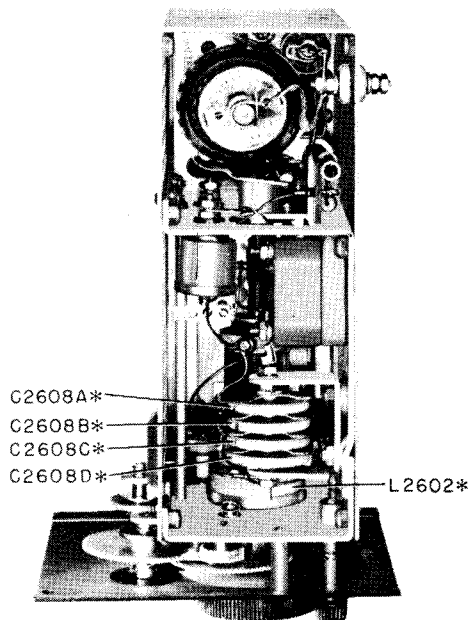

Figure 5-4A. Type O-17/ART-13A Low Frequency Oscillator
b. TYPE 0-17/ART-13A LF OSCILLATOR ALIGNMENT. (Refer to figure 5-4A.)
(1) If for any reason this oscillator shall require realignment, the following procedure shall be used:
(o) While listening to sidetone output, adjust trimmer condenser C2608A* (see figure 5-4A, and note that trimmer can be reached through slot in shield cover of LFO unit), until zero beat is obtained with the output of the calibration oscillator in the CFI unit. These trimmer condensers are adjusted by changing the position of the small "pronged" metal lip that projects out from the side of the rounded edge of the capacitor. Using an insulated tool, merely push the lip to change the capacity of the condenser.
(r) While listening to sidetone output (in head phones), adjust capacitor C2608B* (see figure 5-4A) until "zero beat" is obtained between output of low frequency oscillator and calibration oscillator in CFI unit.
(u) Listen to sidetone output and obtain "zero beat" by adjusting either or both trimmer capacitors C2608C* and C2608D* (see figure 5-4A).